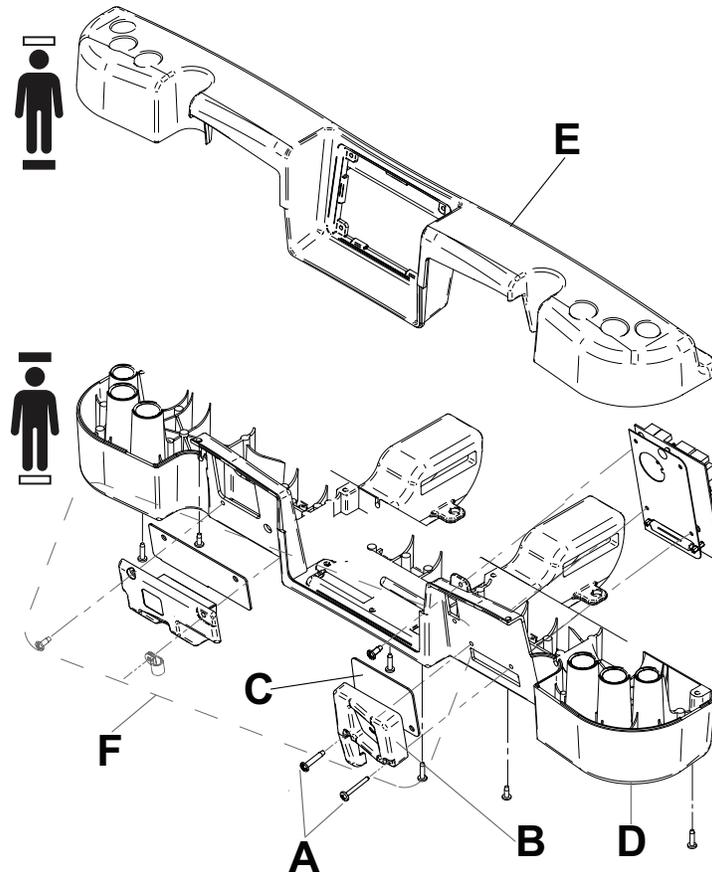

Figure 71 – headwall communication board
11. Using a #2 Phillips screwdriver, remove the two screws (A) that secure the right IR module (B) and gasket (C) to the head end frame (D) (Figure 71). Save the screws.
12. Using a #2 Phillips screwdriver, remove the screw that secures the headwall communication board (E) to the head end frame (D) (Figure 71). Save the screw.
15. If the bed is equipped with the Smart TV option (F), transfer the Smart TV board from the old headwall communication board to the new headwall communication board (Figure 71).